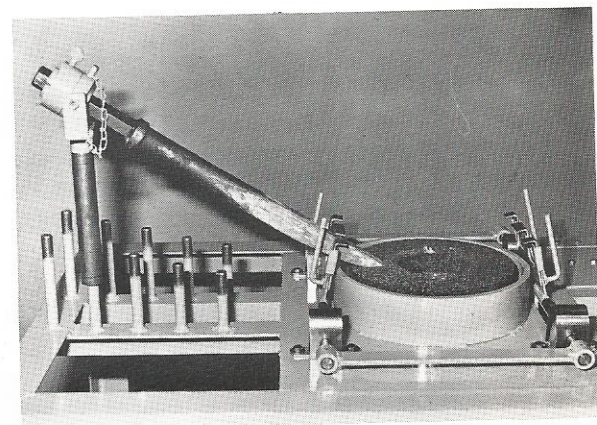

fig. 14
- I. A set of special adapters for PneuMoils, a product of Delsteel, is available. (See fig. 14). For the sharpening of PneuMoils, take these steps:
- b. Mount peg extension on proper peg and fit tool holder. (See fig. 14.)
- d. Position PneuMoil tip half way between center hole and outer circumference of the grinding wheel. (See fig. 14.)
Therefore: First, grind the PneuMoil as shown in fig. 14 until the guide line touches the grinding stone surface. (Cradle #5 will normally prevent excessive grinding).